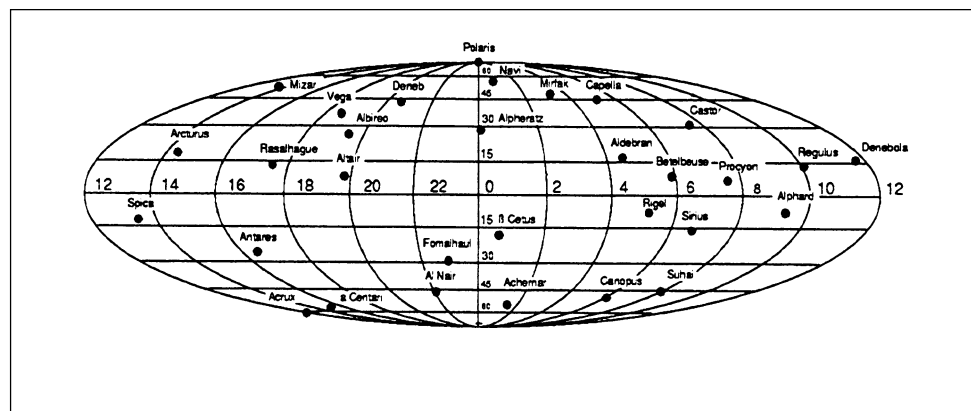

Figure 4-10
6. Rotate the circle until the proper coordinates line up with the R.A. indicator. The R.A. setting circle should rotate freely. The R.A. setting circle has a marker every four minutes with each hour labeled (see figure 4-10).